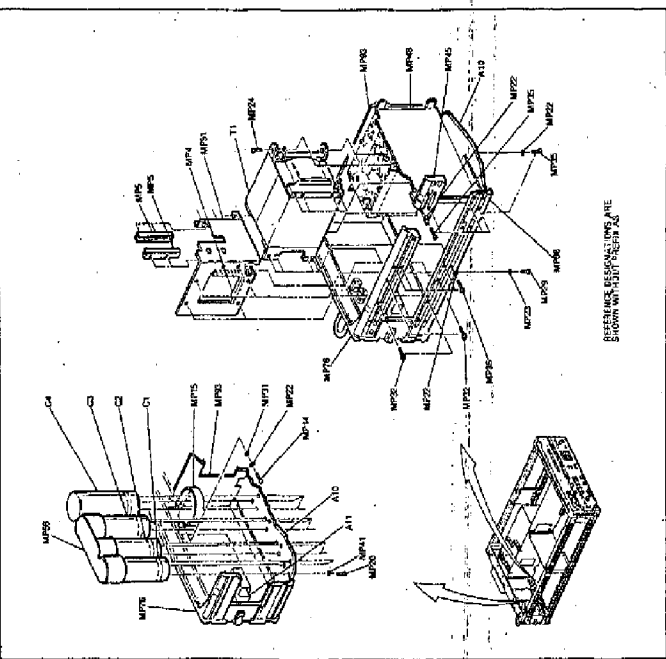

Figure 8-303. A3 Transformer and Filter Capacitor Removal
Refer to Figure 8-303 for the following steps:
- Refer to Figure 8-303 for the following steps.